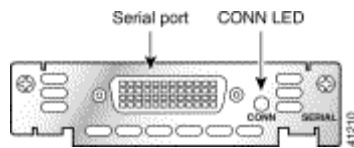

Figure 3
The 1-port serial WAN interface card (see Figure 3 – already built in the router) has a DB-60 serial port. Use the correct cable (contained in the package) for your serial WAN interface card (CAB-232MT).
Step 1 Use the serial cable and connect one end of the cable to the serial port of the router (Figure 3)